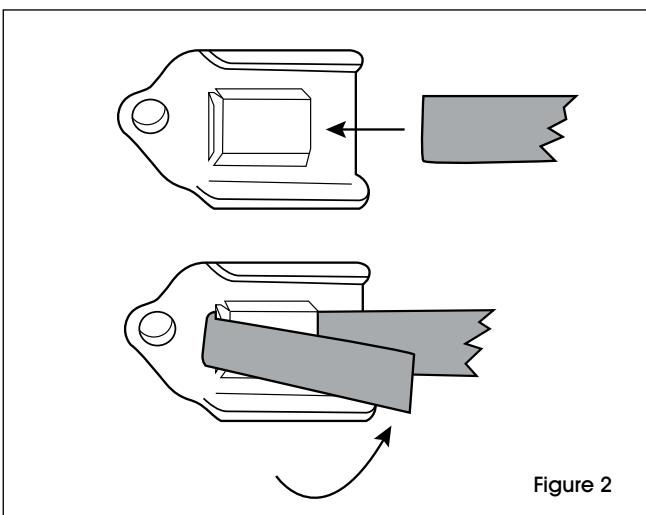

Figure 2
3. Insert straps through buckles and bend back excess strap, leaving just enough space to connect the buckles using the bolt and nut when wrapped around the pole. (See Figure 2)